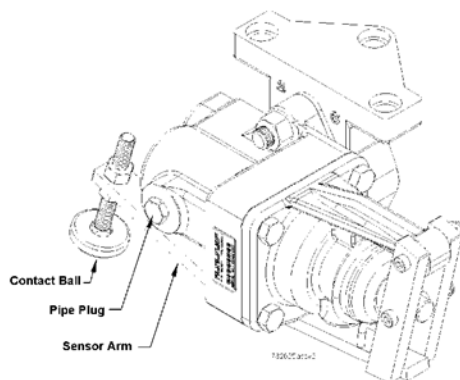

Figure 38: S-1 Sensor Valve
5.15 S-1 LOAD SENSOR VALVE, Fig. 38